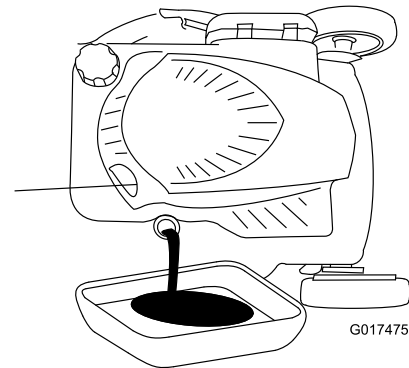

Figure 25
3. Tip the machine onto its side, with the dipstick down, to drain the used oil out through the oil-fill tube (Figure 25).